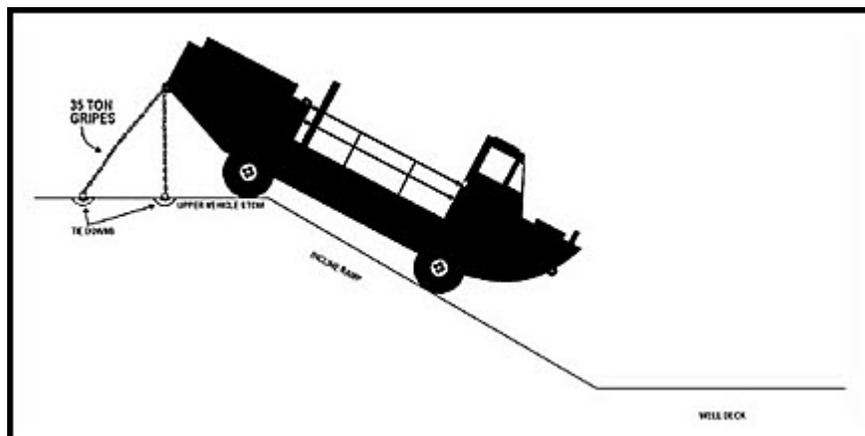

Figure 14-17 Lashing Requirements aboard LPD for Temporary Stowage of LARC V (side view) on Incline Ramp
6. The LARC then backs up the incline ramp to a point where BMU personnel can connect two 35K gripes to the stern of the LARC according to Figure 14-17.